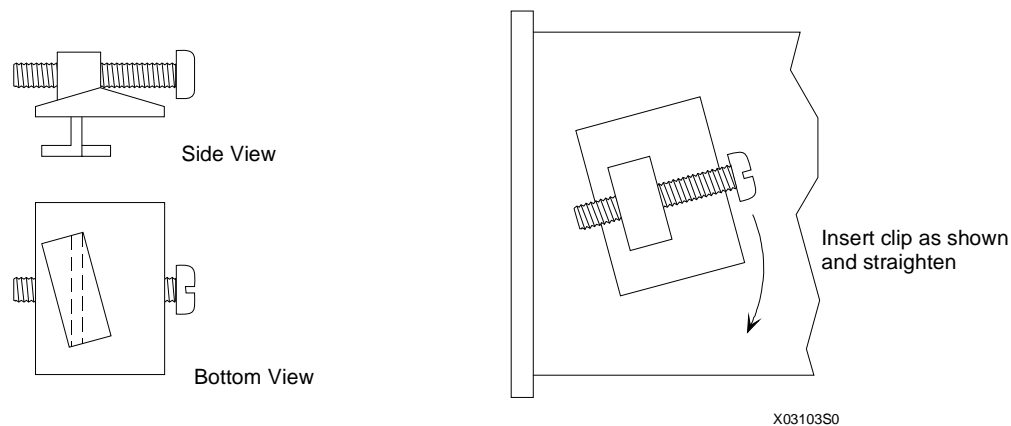

Figure 7-4 Case Mounting Clip
1. Locate the supplied Mounting Clip Kit. It contains two mounting clips and two 8-32 x 1" fillister head screws. Thread the mounting screws into the mounting clips. See Figure 7-4.